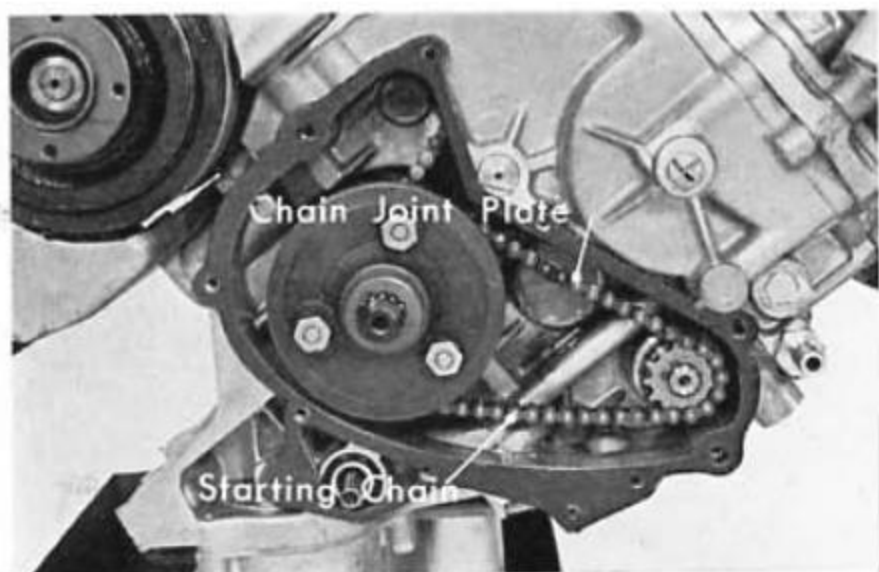

Fig. 1H-5
2. Remove the lock nut by using special tool, a crankshaft pulley holder with three 8mm bolts (Fig. 1H-2). Torque the lock nut to 13kg-m (94ft-lbs) during assembly.